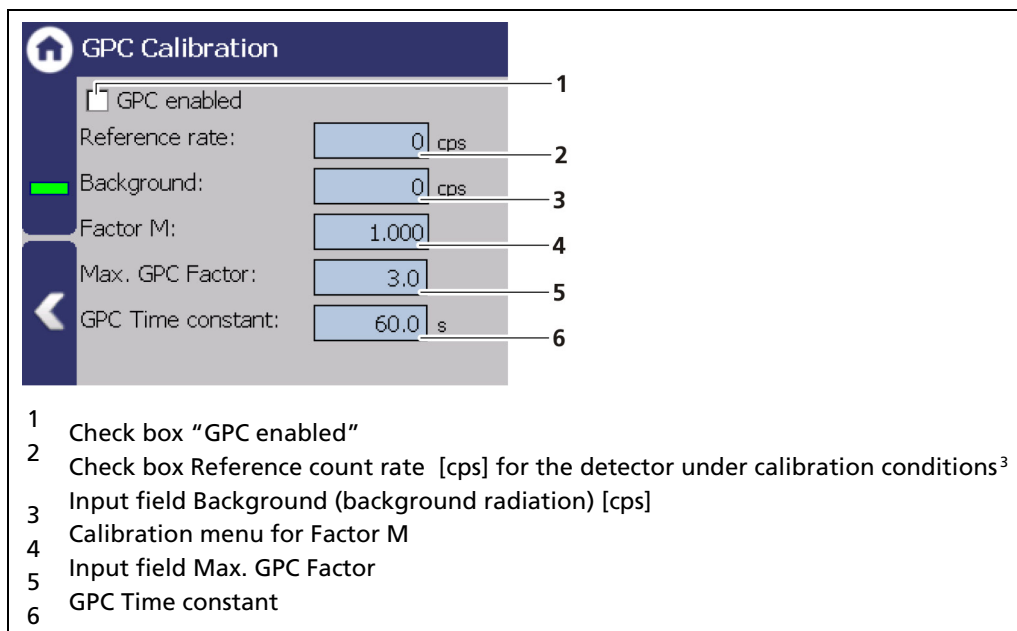

Fig. 94 GPC Calibration
The check box "GPC enabled" (Fig. 94, item 1) can only be selected when a detector is configured for gas density measurement and the unit % is for "PV" selected.
The reference count rate of the connected density measurement must be recorded at the same pressure at which the level calibration table was recorded. Therefore, it is recommended to read in the reference count rate immediately after recording the empty level count rate. Click on the input field for the reference count rate (Fig. 94, item 2) to read in the reference count rate.
1. Click on the input field "Count Rate" (Fig. 94, item 2).
The background count rate (Fig. 94, item 3) indicates the natural background radiation of the gas density detector if no radiation source is installed. This count rate is compensated by the system.
1. Click on the text field "Background" (Fig. 94, item 3).
After all values have been entered or calculated in the GPC calibration window, the GPC function can be activated with the "GPC activated" check box (Fig. 94, item 1).
The maximum factor with which the level count rate may be compensated is specified in the field "Max. GPC Factor" (Fig. 94, item 5). The default value is 3.0.